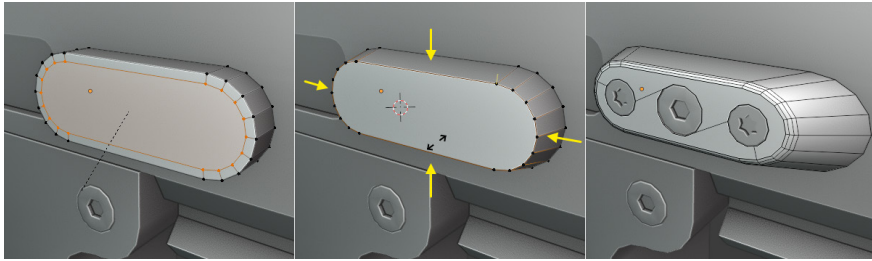

Figure 3.32 – Insert Faces (left), Sliding (middle), Adding screw (right)
5. Make a shape like the one on the left in *Figure 3.32*. Select the face on the side and press *I* to insert a new face. Rather than simply creating a smaller face, this tool will create a face with edges equally distant to the edges on the face we are inserting it into at every point.